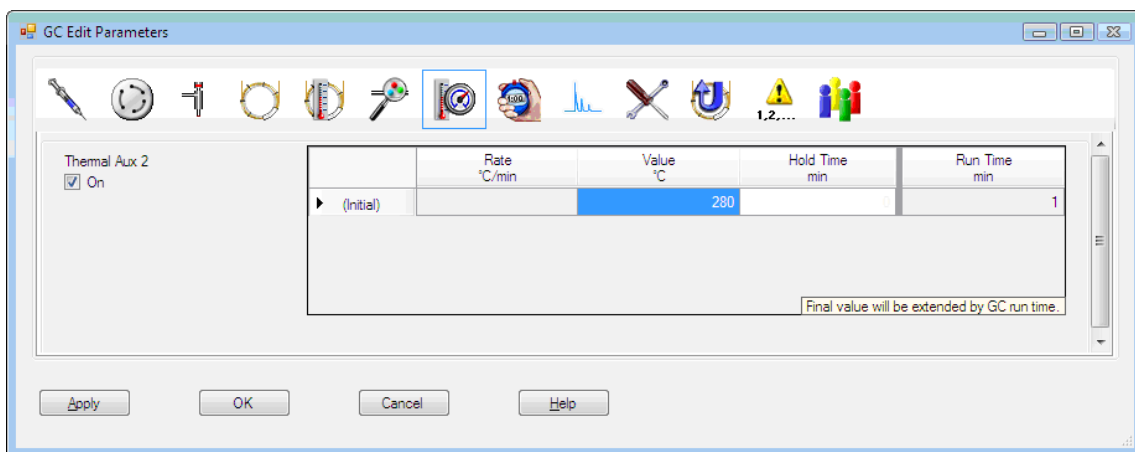

Figure 10 Setting the interface temperature
- 2 Click the **Aux** icon to edit the interface temperature (Figure 10). This example has the GC/MS interface temperature configured as Thermal Aux 2.